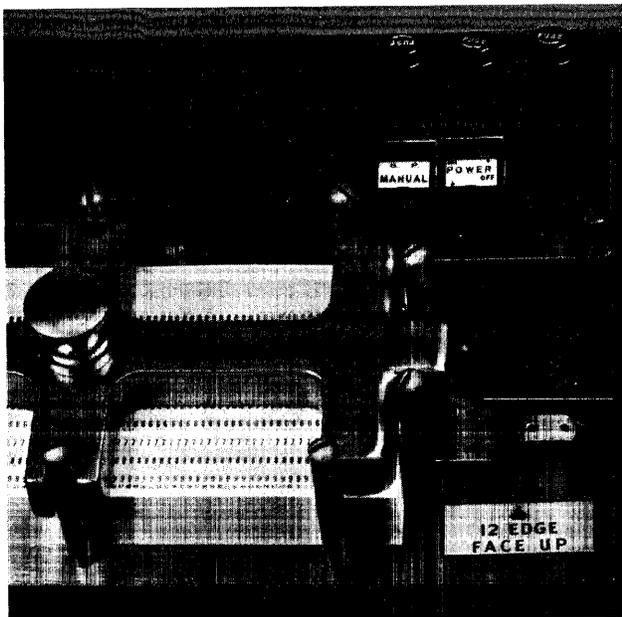

Figure 65. Machine Controls
5. Turn the Summary Punch-Manual switch on each IBM 524 to SUMMARY PUNCH (Figure 65).